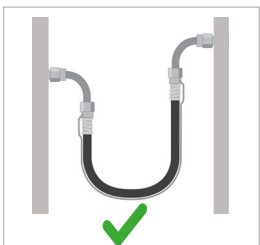
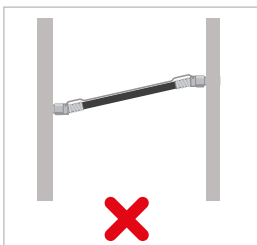

Figure 12
Figure 13
- ▶ Leave enough slack when mounting the hose, as it can shorten by up to 4% when pressurized (Figure 12 and Figure 13).